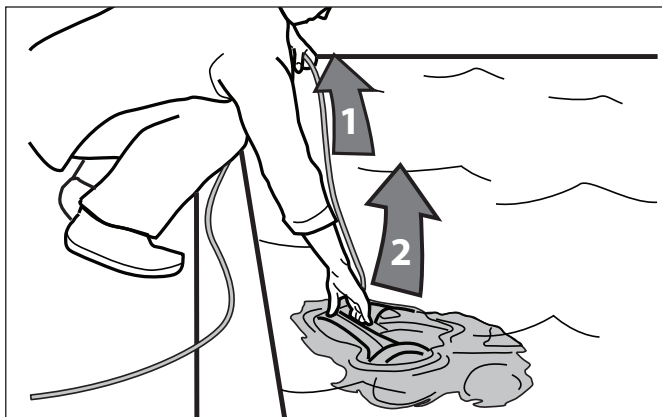

Figure 18. Remove Cleaner From Pool
- Never lift the 9300 Sport out of the pool by the floating cable. Always use the handle to remove it from the pool. Refer to Figures 18 and 19.